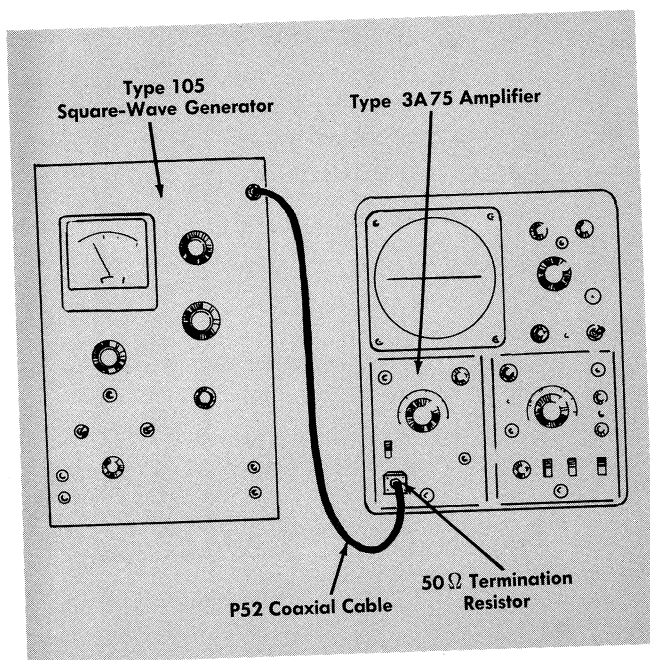

Fig. 8. Tektronix Type 105 Square-Wave Generator connected to the Type 3A75 for amplifier frequency compensation.
3. Connect the 400-kc output of the square-wave generator through the coaxial cable and matching termination resistor to the INPUT connector of the Type 3A75. (Fig. 8 shows the Tektronix Type 105 Square-Wave Generator properly connected to the Type 3A75 for this step.)